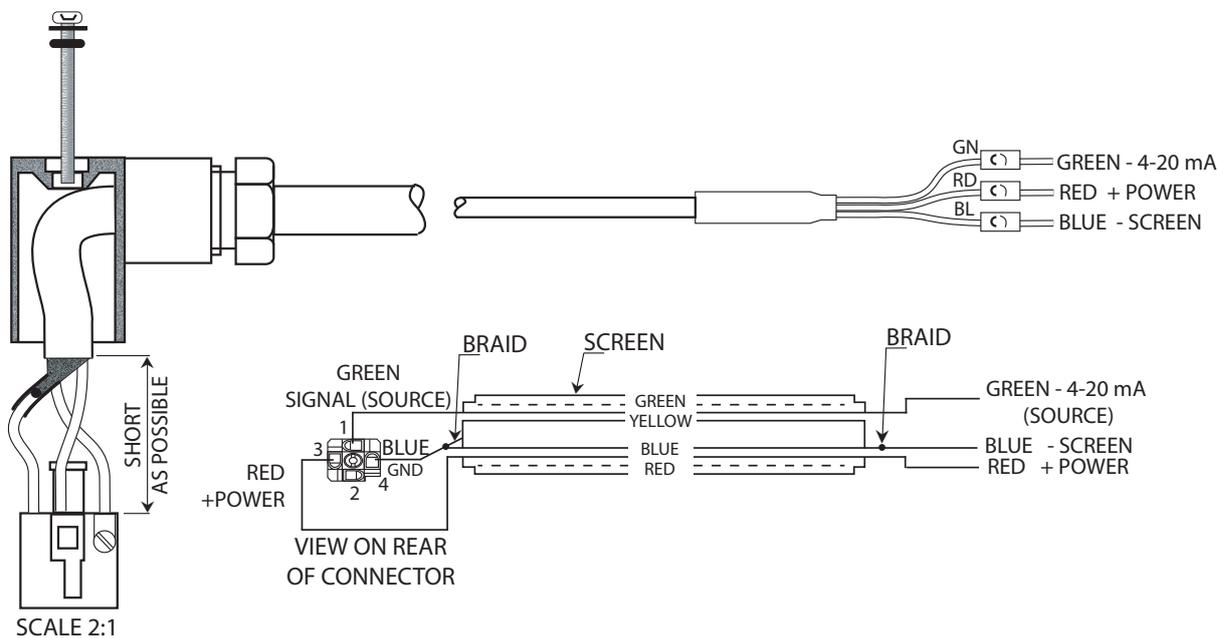

Figure 7 *Wiring Connections*
**Always connect the 4...20 mA return signal to a suitable load (see *Figure 7*) before the power is applied. Without this connection, the transmitter may be damaged if allowed to operate for prolonged periods.**